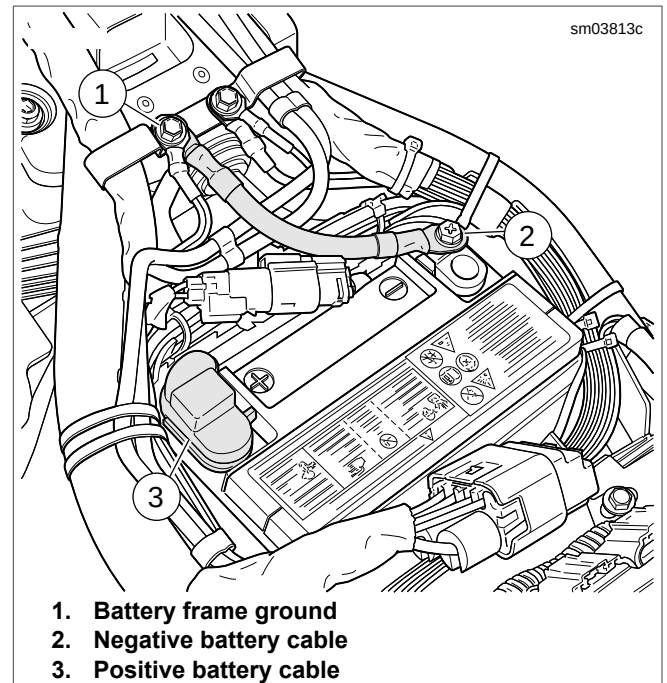

Figure 1-54. Battery Connections
- See Figure 1-54. Install battery. Tighten positive battery terminal fastener to 60-72 in-lbs (6.8-8.1 Nm).
- Install negative battery cable at battery frame ground (1) before any accessory ground wires.
- Install negative battery cable (2) at battery. Tighten negative battery terminal fastener to 60-72 in-lbs (6.8-8.1 Nm).